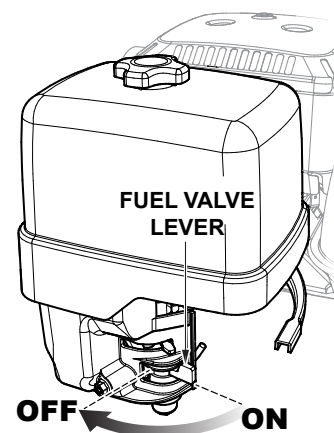

Figure 25. Fuel Shut-Off Lever (OFF)
- Place fuel shut-off lever (Figure 25) in the **OFF** position.